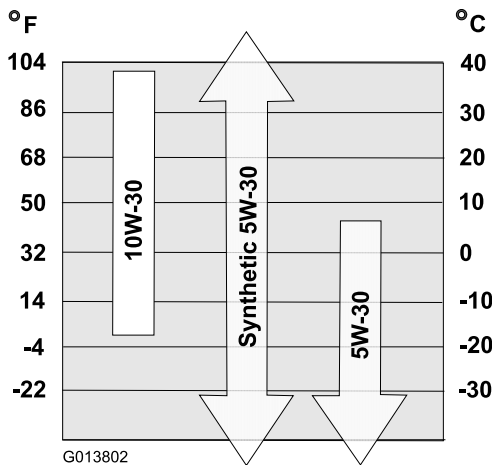

Figure 18
6. Use Figure 18 below to select the best oil viscosity for the outdoor temperature range expected: